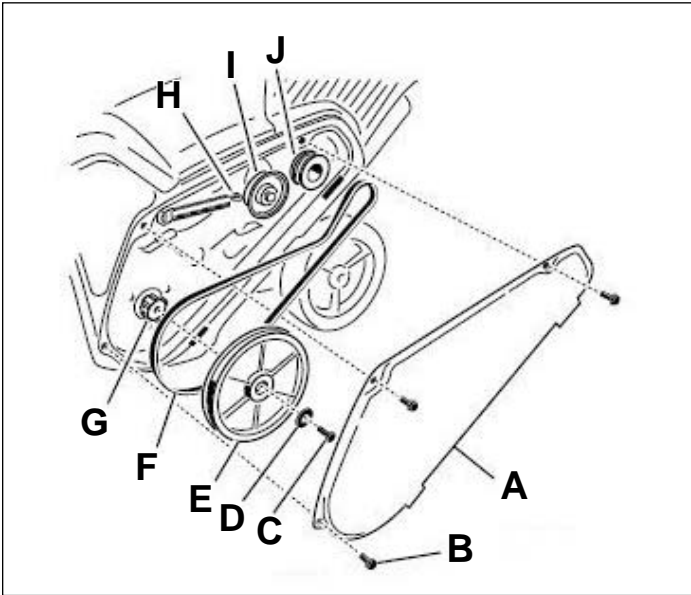

Fig. 021
1. Remove the drive belt cover by removing the 3 bolts as shown in Fig. 021.
2. Unhook the brake spring from the idler arm to release the belt tension (Fig. 021).
3. Remove the screw and curved washer that holds the rotor pulley (Fig. 021).
4. Remove the rotor pulley and the drive belt (Fig. 021).